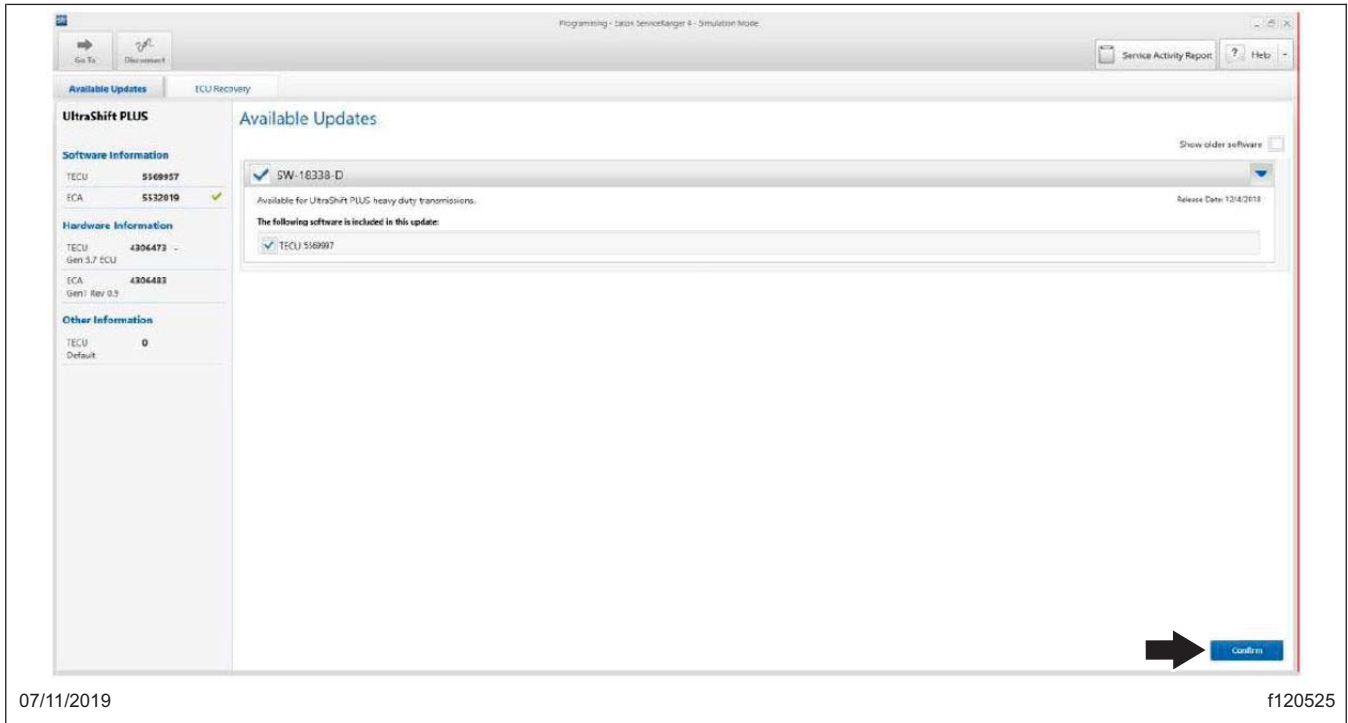

Fig. 8, Selecting Confirm
4.6 Select "Confirm." See Fig. 8.